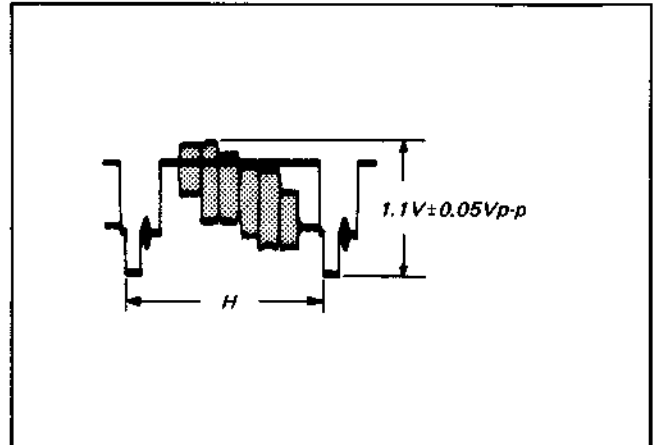

Fig. 4-4-3. Peak AGC adjustment
- (1) Supply the VTR with the colour bar signal and set up the E-E mode.
- (2) Connect the oscilloscope to pin 24 of IC1.
- (3) Adjust RV1 for maximum output level of the video signal and then adjust RV8 so that the output level of the video signal becomes  $1.1\text{V} \pm 0.05\text{Vp-p}$ . (See Fig. 4-4-3.)